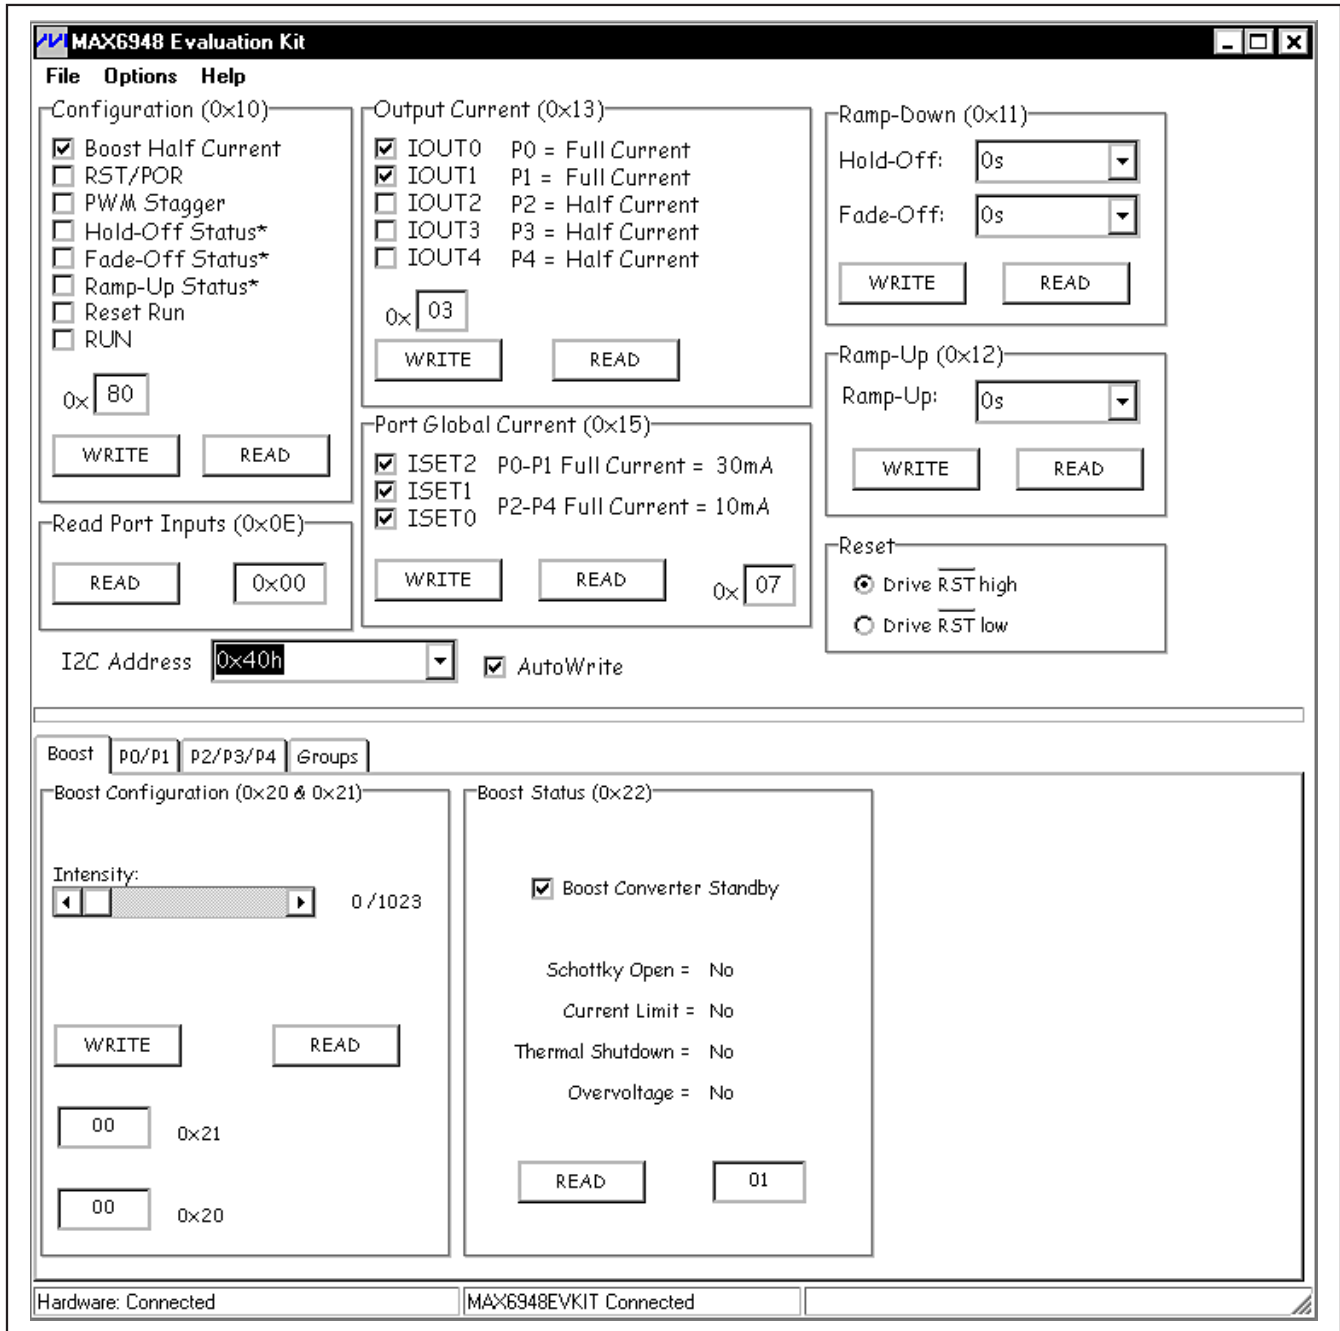

Figure 1. MAX6948 EV Kit Software Main Window (P0/P1 Tab)
- 8) Start the MAX6948 EV kit software by opening its icon in the **Start | Programs** menu. The EV kit software main window appears, as shown in Figure 1.
The main window of the evaluation kit is shown in Figure 1.
P0 and P1 ports have a maximum sink current of 30mA while the P2, P3, and P4 ports have a maximum sink current of 10mA. The **Port Global Current (0x15)** group box (Figure 1) selects the maximum current for the ports and the **Output Current (0x13)** group box selects whether the maximum current for each individual port is full current or half current.
The reset signal can be driven high or low in the **Reset** group box (Figure 1). The functionality of  $\overline{\text{RST}}$  depends on whether the **Reset Run** or **RST/POR** checkbox in the **Configuration (0x10)** group box is checked. Driving  $\overline{\text{RST}}$  low disables I2C communication to read or write to the MAX6948 registers. The previously programmed settings are stored internally.